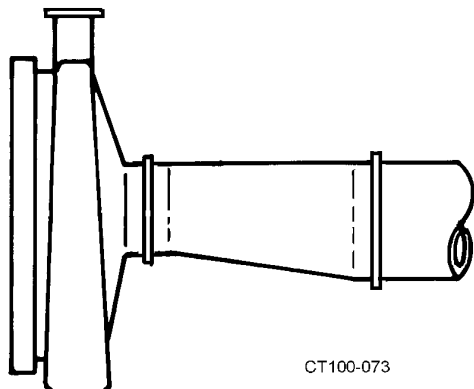

Figure 8 - Correct Eccentric Installation
- If a reducer is connected to the inlet, use an eccentric type to prevent problems due to trapped air. See Figure 8.